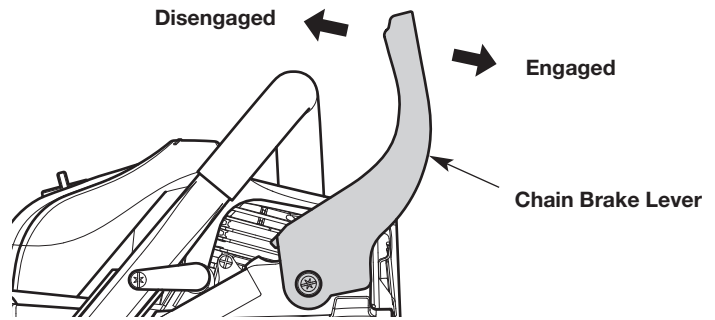

Fig. 1
2. Make sure the chain brake lever is pulled back in the disengaged position (Fig. 1).
4. While the unit is running, squeeze the throttle control to 1/3 throttle and then engage the chain brake by pushing the chain brake lever forward with the left hand (Fig. 1). The chain should stop moving abruptly.